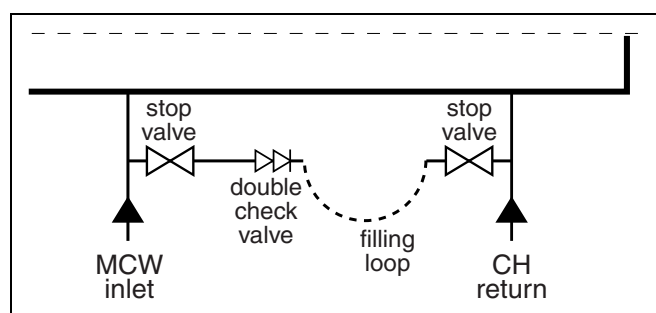

fig. 5 Filling loop
- Connect filling loop (accessory) (fig. 5).
- Open both stop valves (fig. 5).